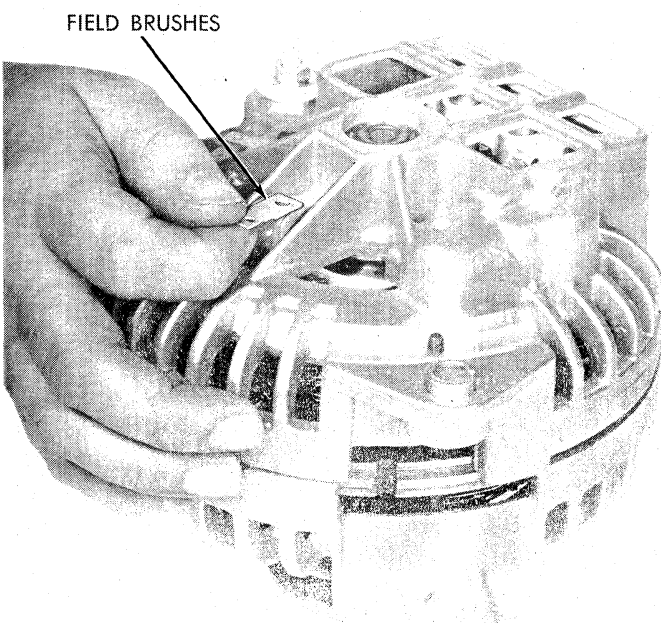

Fig. 12—Removing Field Brushes
(1) Remove the brush screws, insulating washers and lift brush assemblies from end shield (Fig. 12).